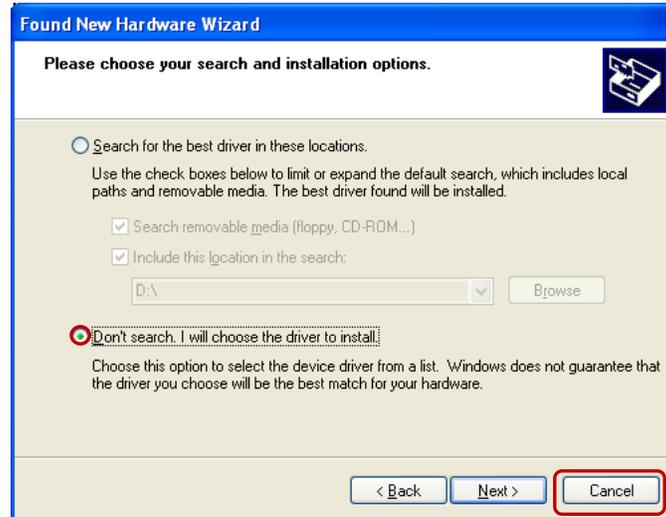

Fig. 7
4. Select > **“Don’t search. I will choose the driver to install.”** and press > **“Next”** as shown in Figure 7.